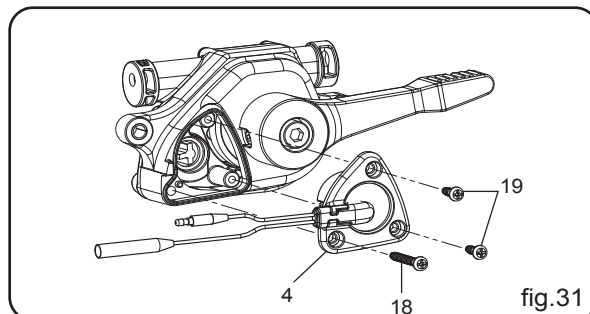

fig.31
B. Remove the stop switch (4) by unscrewing 2 pcs tapping screws (19) and a tapping screw (18). (fig.31)